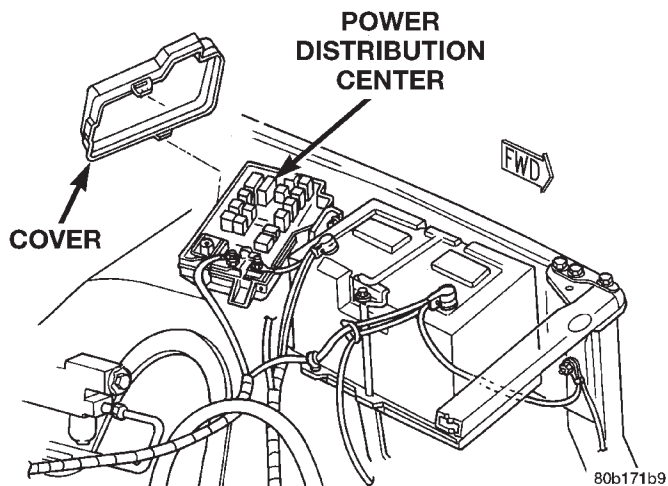

Fig. 6 Power Distribution Center
- (1) Disconnect and isolate the battery negative cable.
- (2) Remove the cover from the Power Distribution Center (PDC) (Fig. 6).